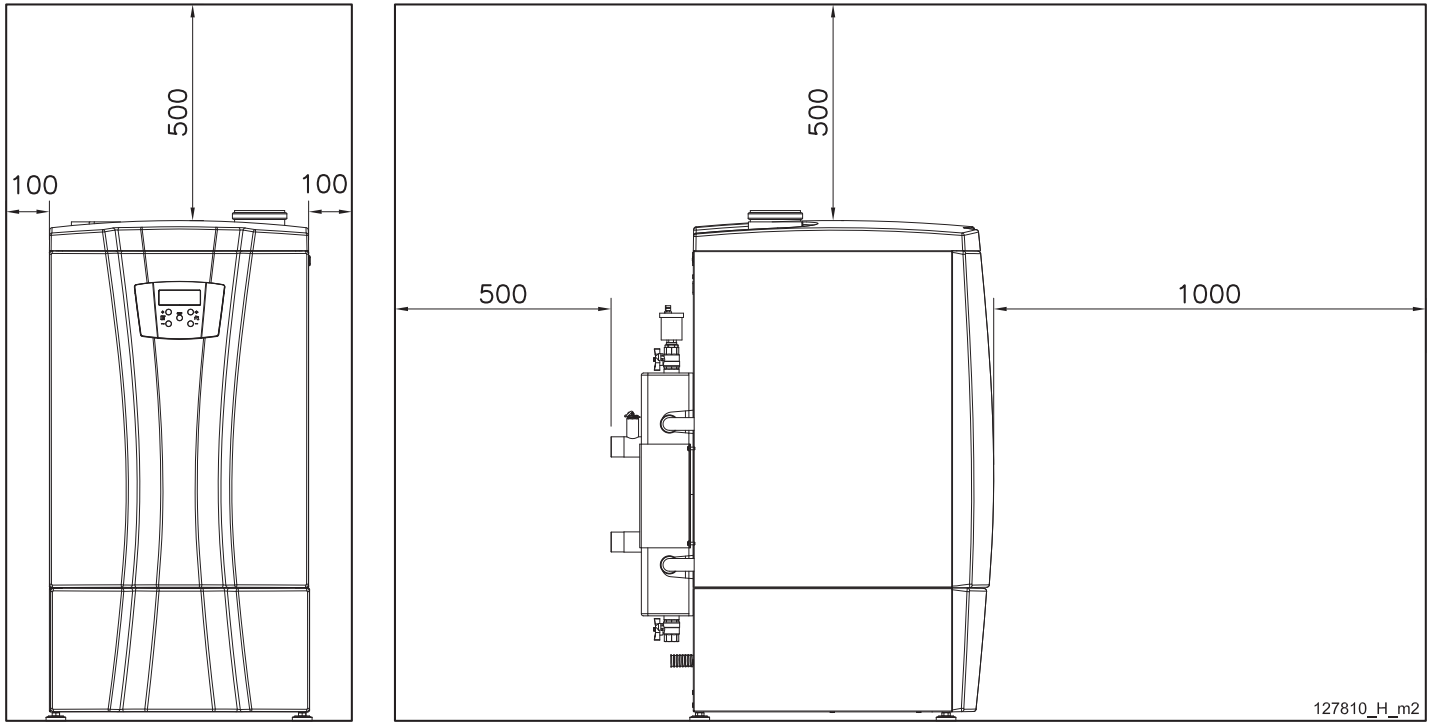
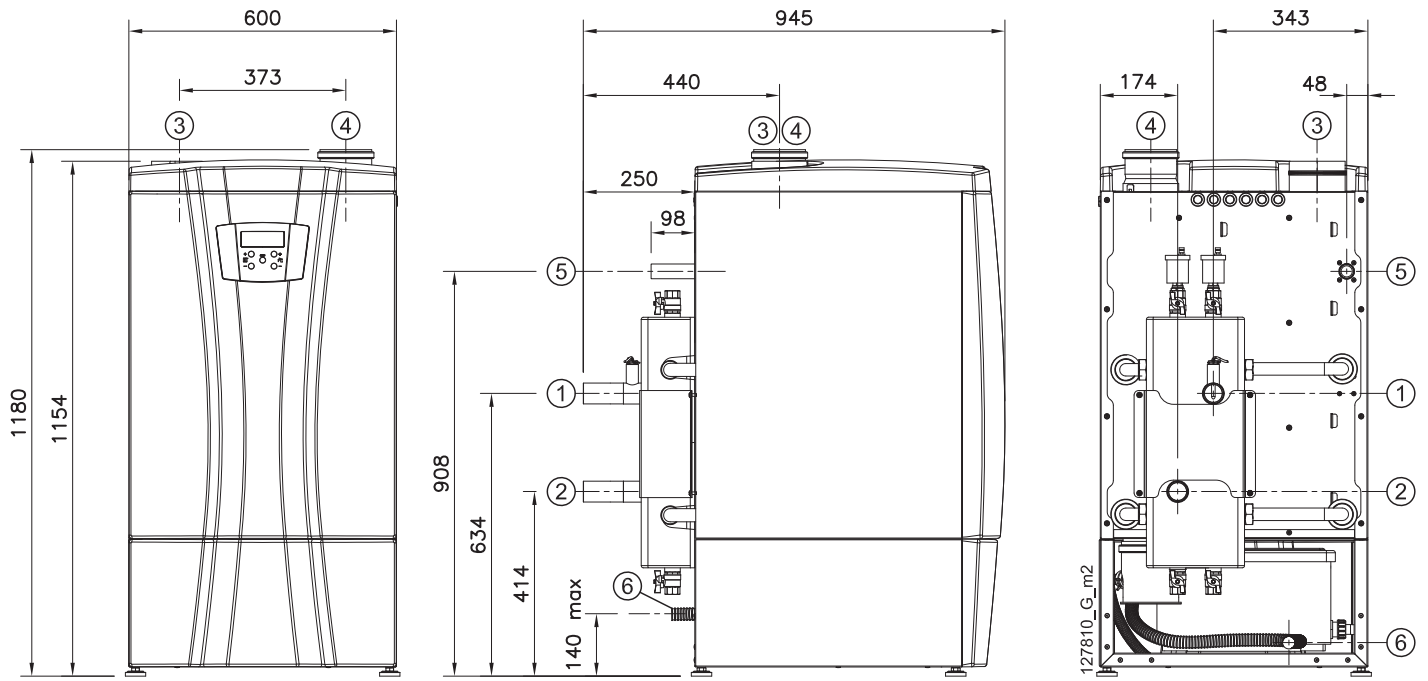

Figure 7-1 - Minimum distances to be observed for models 70T and 140T
Figure 8-1 - Dimensions and centre space distances of attachments for models 70T and 140T (References in figure 8-3)
- ☞ Check figures 7-1 and 7-2 regarding minimum distances to be observed for installation and future maintenance.
For both installation and maintenance, it is necessary to leave free spaces around the boiler, as shown in figures 7-1 and 7-2. The dimensions and connection centre space distances for the boilers are shown in figures 8-1, 8-2, 9-1 and 9-2.
To identify the position of the connections, see figures 8-1 and 8-2.